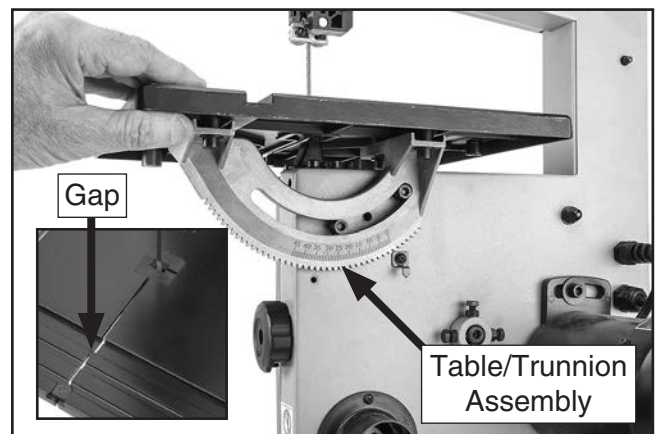

Figure 13. Table assembly positioned on saw.
5. Using gap in table (see **Figure 13**), slide table assembly through blade and rotate assembly 90°. Position assembly as shown in **Figure 13**.